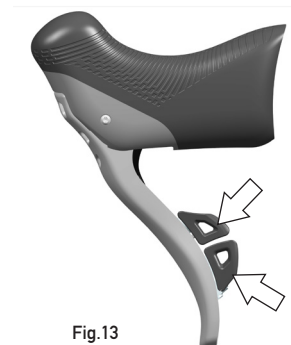

Fig.13
- By pressing the lower lever, the front derailleur shifts down (Fig.13).
- By pressing on the upper lever, the front derailleur shifts up (Fig.13).